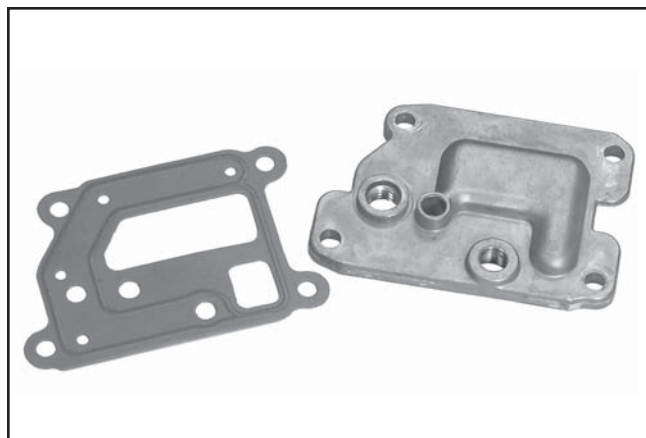

Figure 10-49. Breather Cover and Gasket.
1. Be sure the sealing surfaces of the crankcase and breather cover are clean of old gasket material. **Do not** scrape the surfaces as this could result in leakage. Use a new gasket when installing the breather cover. See Figure 10-49.